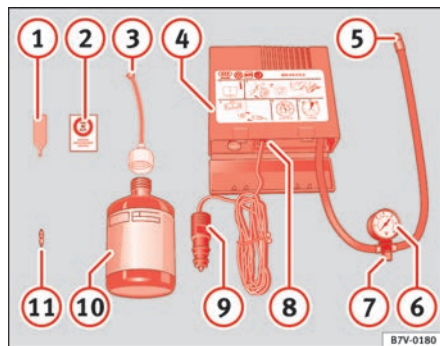

Fig. 155 Contents of anti-puncture kit
- Thread the inflating tube $\Rightarrow$ fig. 155 **5** on the valve.